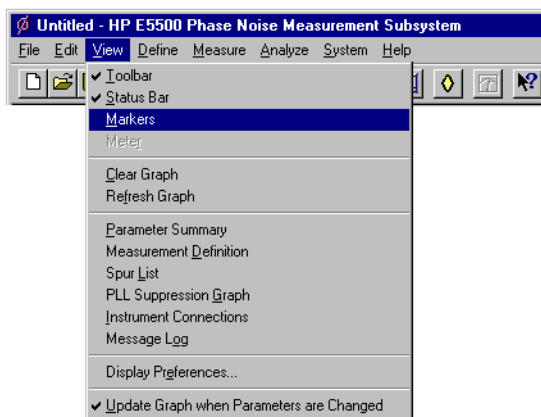

Figure 15-5 Navigate to Marker
- 1 On the **View** menu, click **Markers**. See Figure 15-5.